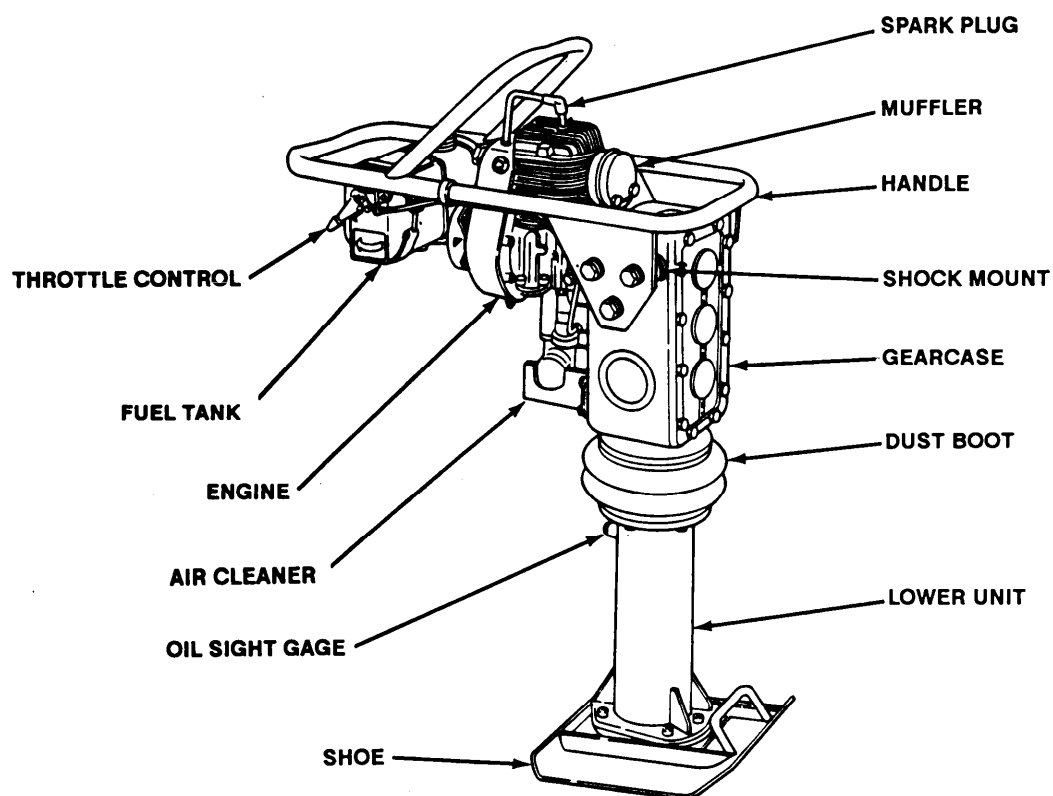

Figure 1-2. Location of Major Components (VR11).
- Refer to Figure 1-2, Locating Major Components (VR11), for location of major components.